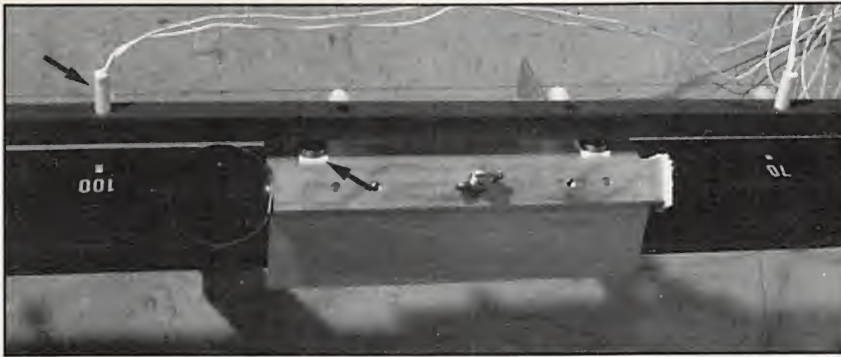
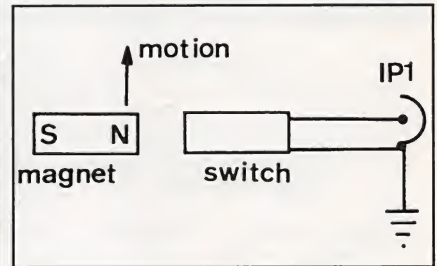

Fig 10. In this air-track-and-glider arrangement, the glider carries a magnet past magnetic switches fixed to a rail. Arrows point to the magnets.
Fig. 11. In this circuit, the magnetic switch closes as the magnet nears the switch and then opens as the magnet passes out of range of the switch.
• **Air-Track Glider Velocity Apparatus** (Fig. 10). A glider rides on a cushion of air, moving horizontally with almost no friction to oppose it. The air track is equipped with a sequence of four magnetic switches (Fig. 11) connected in parallel. Magnetic switches are very reliable. I've detected no switch bounce, even at rates of 150,000 readings per second.